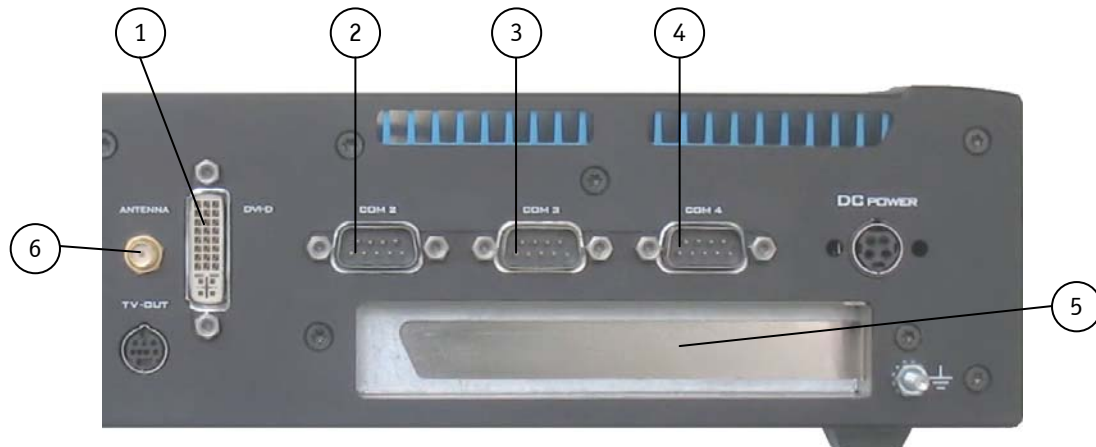

Fig. 12: Detail with expansion options
The CB 753 platform is configured with three serial interfaces. The interface marked "COM2" (Fig. 12, pos. 2) is always as RS232 available. The serial interfaces marked "COM3" (Fig. 12, pos. 3) and "COM4" (Fig. 12, pos. 4) can be ordered as RS232, RS422 or RS485 interfaces. Only factory configuration is possible.
This slot (Fig. 12, pos. 5) is provided for the interface bracket of the customized PCI expansion card (if ordered).
This interface (Fig. 12, pos. 1) is the external DVI-D connector of the PCIe ADD2 Dual DVI add-on board. The DVI interface supports only digital data transfer with maximum resolutions of 1600 x 1200 (UXGA). For the connection of the CB 753 platform to a monitor via this interface both cable types DVI-D and DVI-I can be used.
Depending on the ordered system configuration, the CB 753 platform can be equipped with WLAN hardware expansion card (for one antenna). If you have ordered a system configuration including WLAN, at the rear side a Reverse (RP) SMA-connector is installed (Fig. 12, pos. 6) for screwing on the WLAN antenna.
For WLAN communication the antenna (Fig. 13) will be screwed on to the RP SMA connector (Fig. 12, pos. 6) of the CB 753 system. The antenna can be tilt and rotated in the appropriate position to get the optimal transmission and reception quality.